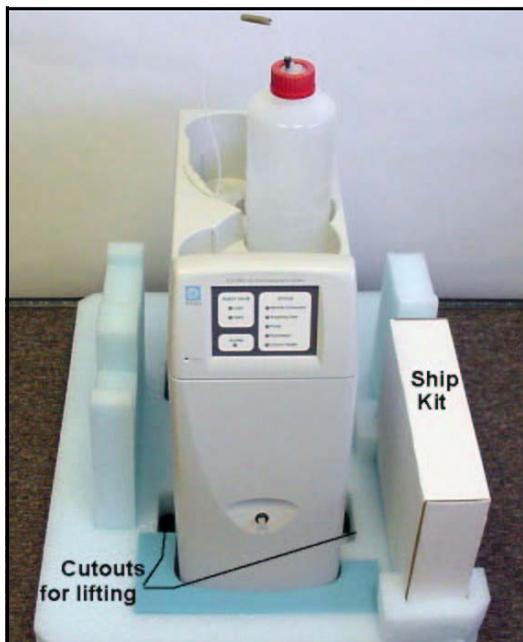

Figure 3. ICS-1000 with Ship Kit
3. Remove the next layer of foam and remove the Ship Kit box (see Figure 3).
4. The bottom foam layer has two cutouts on either side of the ICS-1000 module; use these as handholds when lifting the module (see Figure 3).